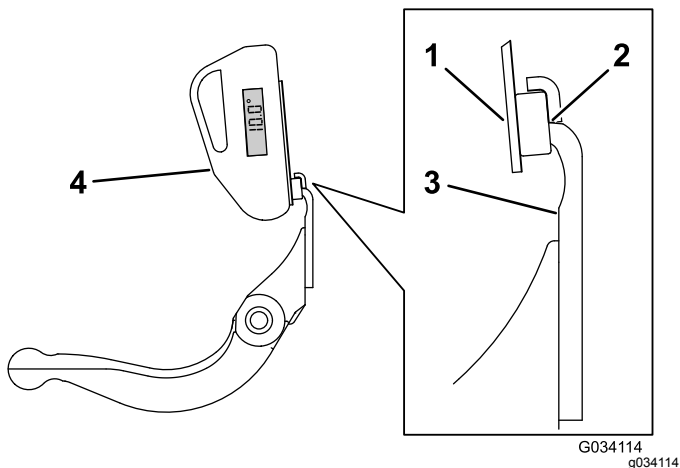

Figure 67
3. Place the angle-indicator mount on the edge of the bedknife so that the edge of the magnet mates with the edge of the bedknife (Figure 67).
4. Place the angle indicator on the mount as shown in Figure 67.